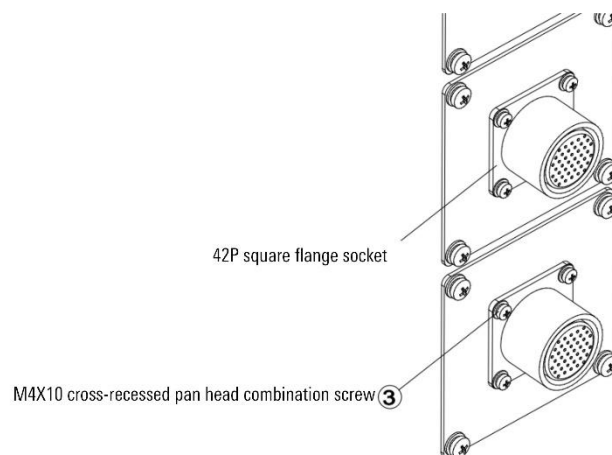

Figure 16-12 42P square flange socket
Step2. Install two ②MF user I/O cabinet lines with a 42P square flange socket at one end of the double-row 40P connector plug through 8 ③M4X10 cross-recessed pan head combination screws to install on the user I/O female mounting plate, refer to Figure 16-12.